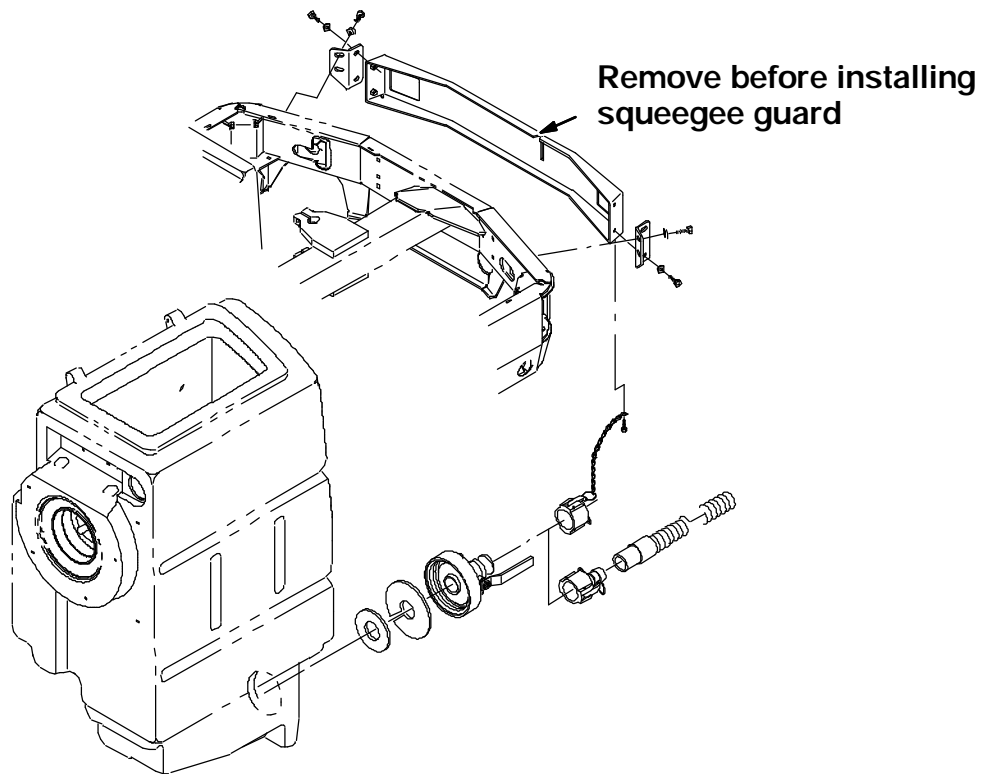

FIG. 1 - BUMPER REMOVAL ON STANDARD MACHINE
(Refer to FIG. 1, 2 and 3)
2. If Positive Control Solution Drain Kit is installed, remove the metal bumper (p.n. 365151) installed on both standard and ES machines. (Refer to FIG. 1 and 2)